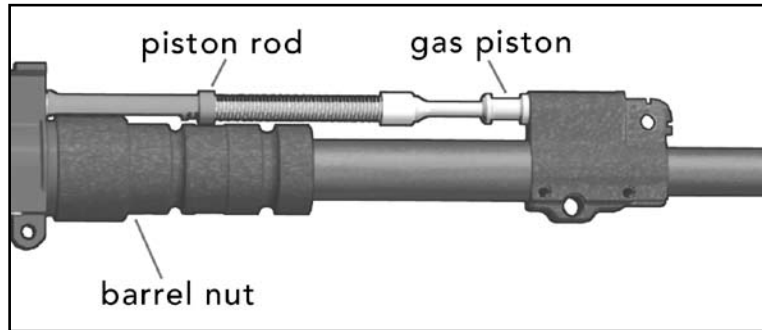

Fig. 69 – Lubrication of the MR762A1 Bolt Carrier Assembly
1. Apply a medium coat of lubricant on the gas piston and operating rod (Fig. 69)